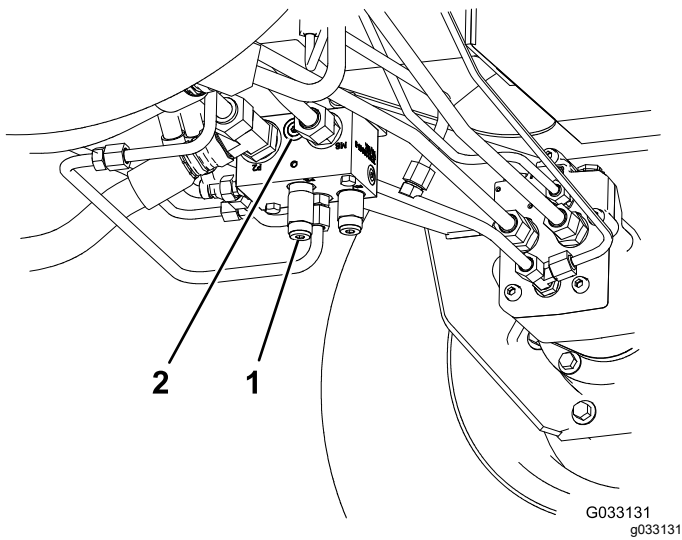

Figure 63
- Toro Part No. 95-0985, coupler fitting (2)
- Toro Part No. 340-77, hydraulic fitting (2)
1. Install a diagnostic fitting in the unmarked port located between ports M8 and P2 on the rear traction manifold (Figure 63).